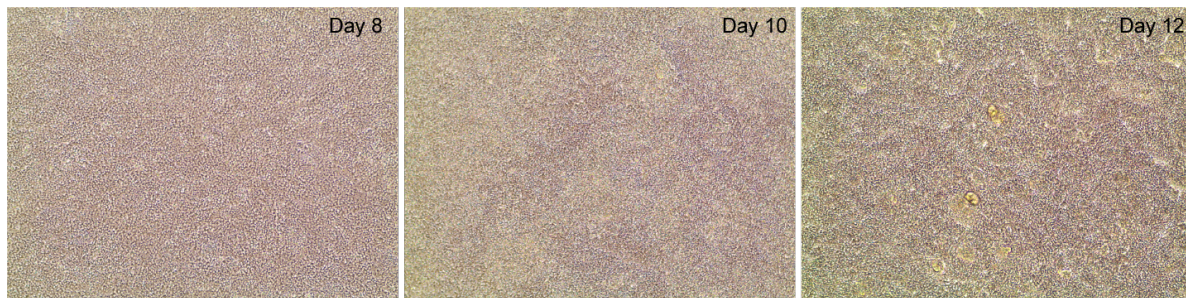

Figure 5: Lung progenitor induction.
- Feed cells every other day. (Fig.5)